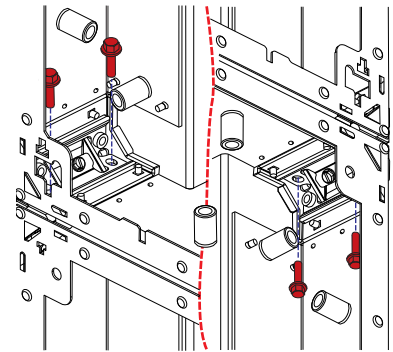

Figure 10: Installing Bolt through Corner Block
3. Install $\frac{1}{4}$ " bolts (located in the blue interconnect hardware bag) vertically through all of the corner blocks in one cabinet and into the adjacent cabinet's corresponding corner block's nutsert (four per side). Refer to **Figure 10 on page 3**. Finger-tighten the bolts.